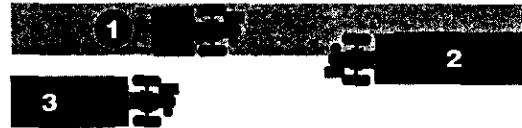

Figure 3-17
- If the garden size will not permit lengthwise and then crosswise tilling, then overlap the first passes by one-half a tiller width, followed by successive passes at one-quarter width (see Figure 3-17).